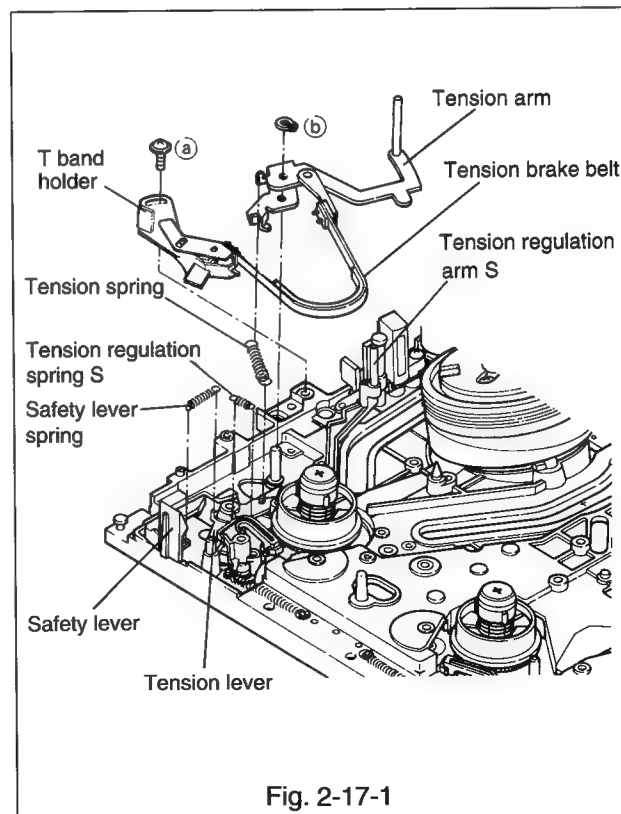

Fig. 2-17-1
2-17-1 Removal(Refer to Fig. 2-17-1~2-17-4.)
- D. Secure the tension arm and the tension regulation arm S with a rubber band etc. so as to separate them from the supply guide roller.(Refer to Fig. 2-17-1.)
2-17-2 Installation(Refer to Fig. 2-17-1~2-17-4.)
- F. Fasten the capstan brake spring to the capstan brake and the loading gear arm from the top side of the deck.(Refer to Fig. 2-17-1.)